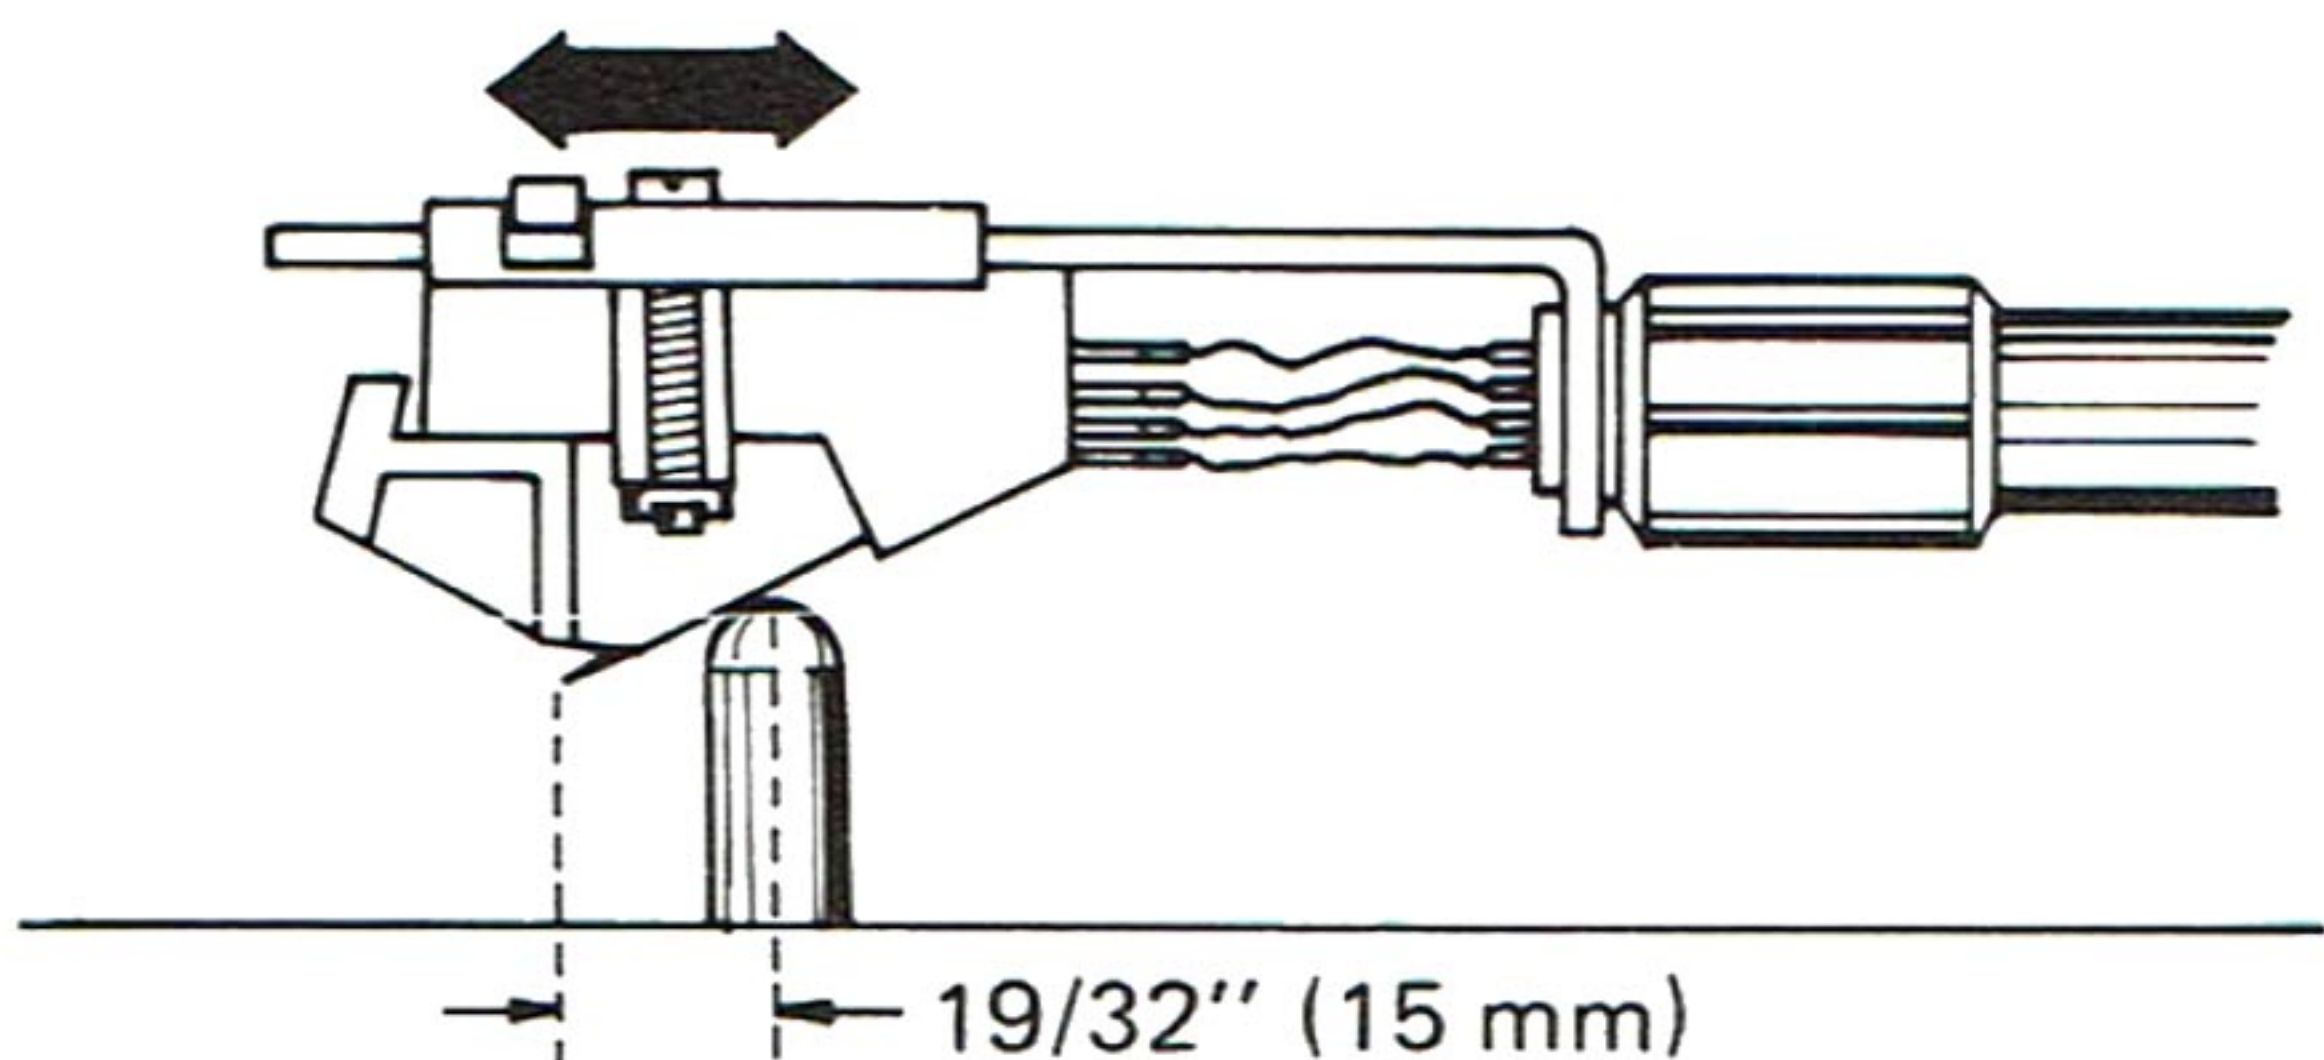

Fig. 3
- 2. Move the tone arm over the turntable shaft and move the cartridge back or forth to obtain a space of 19/32" (15 mm) between turntable shaft and stylus tip (Fig. 3). Fix cartridge in this location by tightening mounting screws.